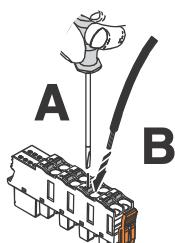

Figure 8-3 Connecting a stranded cable
- Open the spring by pressing the screwdriver onto the spring lever (Figure 8-3, A). Use, for example, a bladed screwdriver with a blade width of 2.5 mm. Phoenix Contact recommends the Szs 0,4x2,5 screwdriver (see Section “Ordering data” on page 130).
- Insert the cable in the terminal point (B).